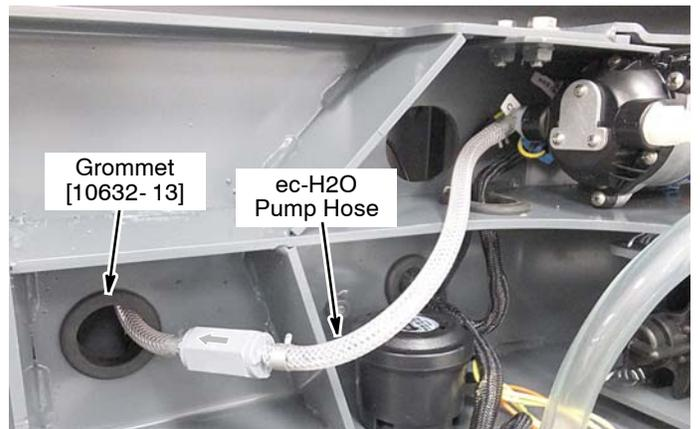

Fig. 21
- Install grommet into machine frame and route the solution hose from pump up through grommet (Figure 21). Make sure the arrow located on the check valve points towards the grommet.
9. After machine is turned upright, continue routing the ec-H2O pump solution hose as shown (Figure 21).